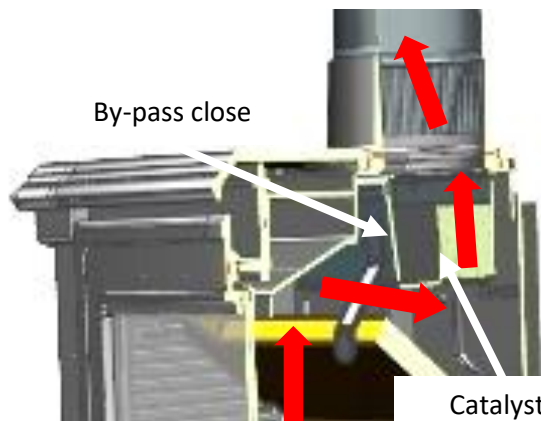

Fig. 19
5. When the fire is well established, slide the Burn Type Lever to the top for normal operation with wood ("A"). Then adjust the Burn Rate Knob to the desired heat output, either manually or with the remote control. If you have the Catalytic Hybrid Woodbox System, close the by-pass to allow the flue gases pass through the catalyst (Fig. 19) to achieve the maximum efficiency of the stove. **Protect your hands for such operation.** In addition, if you have an optional draft control (fig. 10), you can regulate combustion by operating its control.